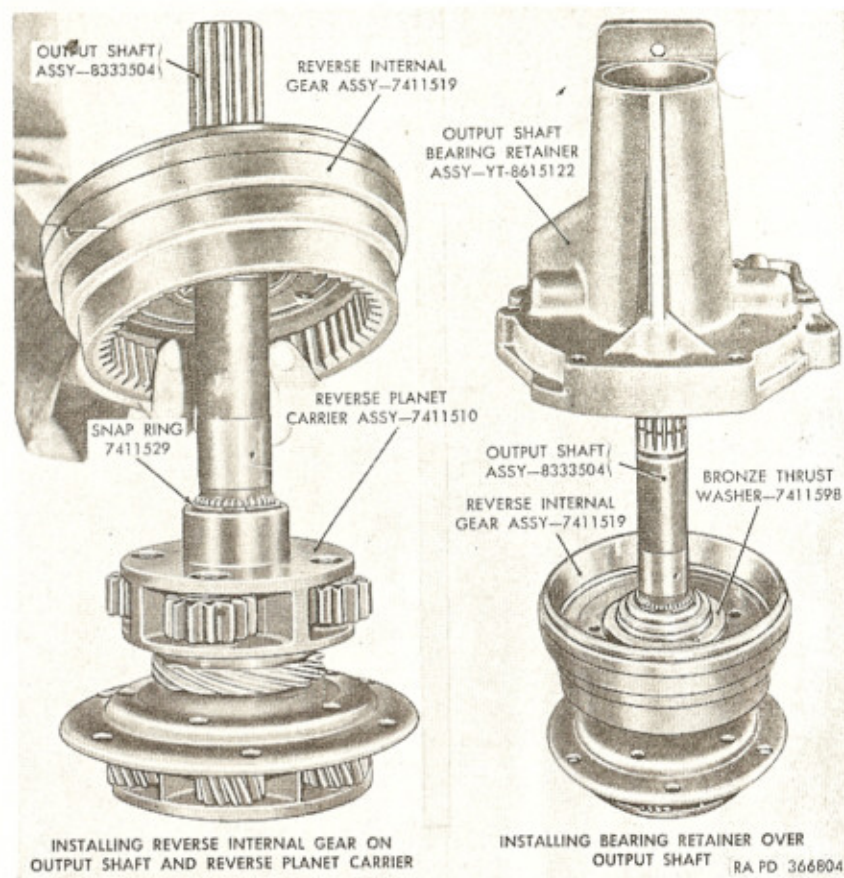

Figure 144. Installing reverse internal gear assembly and output shaft bearing retainer on output shaft.
f. Place reverse internal gear and cone assembly (P and R) over output shaft and position over reverse planet carrier, with internal gear teeth in reverse internal gear meshing with pinions in planet carrier. Place bronze thrust washer (S) over output shaft and position on hub of reverse internal gear assembly (fig. 144).
l. Install output shaft bearing retainer assembly over output shaft (fig. 144). Carefully lower retainer assembly into place until reverse clutch piston seats in reverse internal gear.